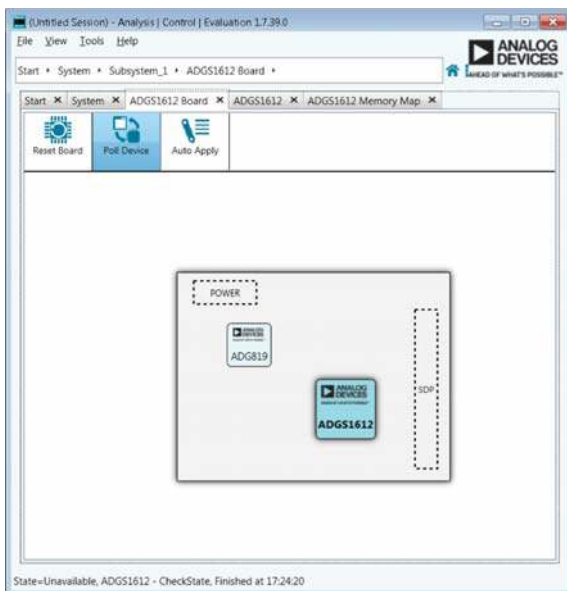
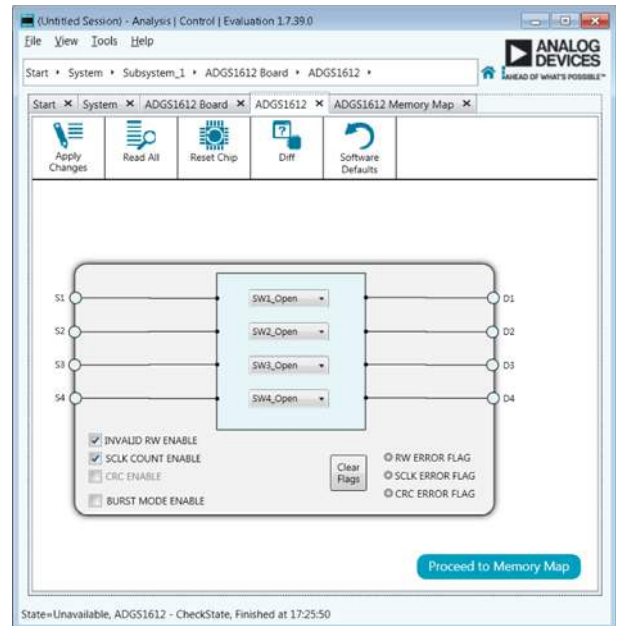

Figure 2. Evaluation Board View of the EVAL-ADGS1612SDZ
Figure 3. Chip Block Diagram View for the ADGS1612
4. Double-click on the evaluation board plug-in to open the evaluation board view seen in Figure 2.
5. The chip block diagram can be accessed by double-clicking on the ADGS1612 chip (see Figure 2). This view provides a basic representation of functionality of the evaluation board. The main functions are labeled in Figure 3.